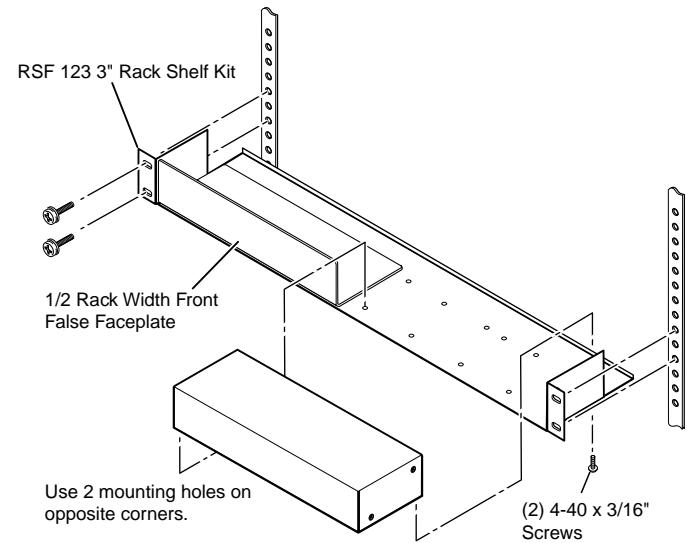

Figure 2-1 — Mounting the switcher on a 3-inch rack shelf
- RSF 123 3.5-inch deep rack shelf kit (part #60-190-20) (figure 2-1, on the next page)